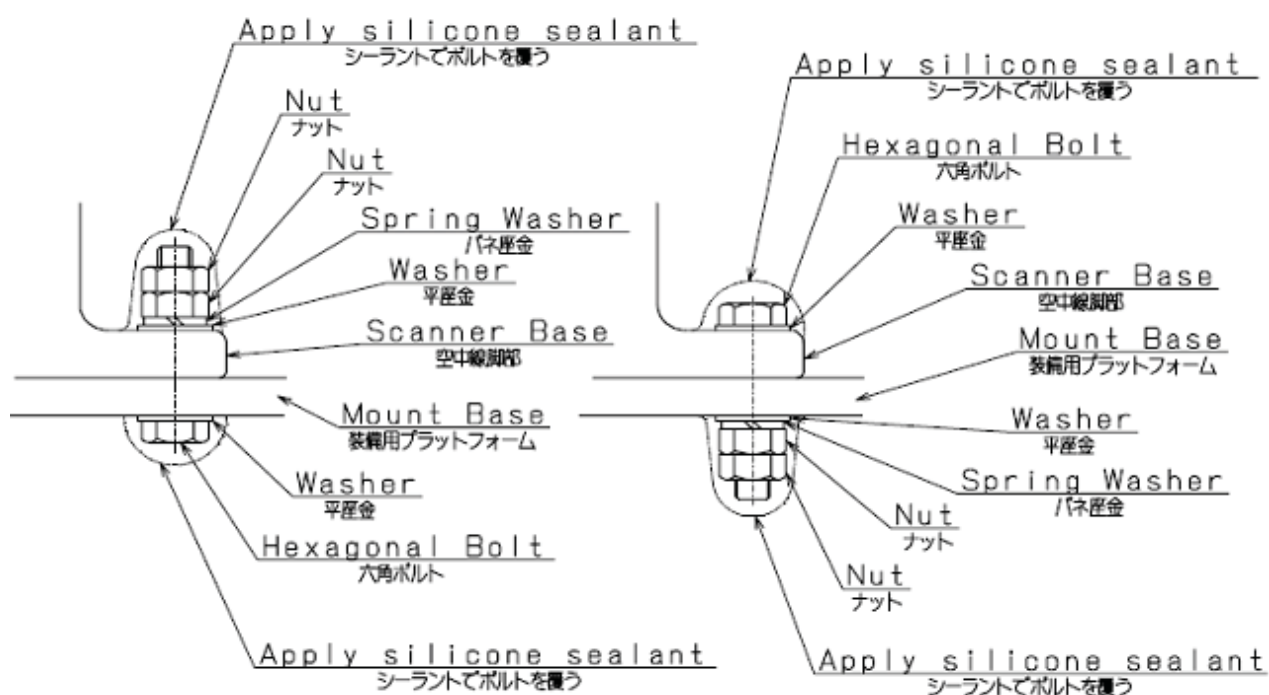

Fig.2-3 Use of washer and corrosion-resistant measures
- At the location where a bolt's head or nut comes in contact with the antenna chassis' legs and the mount base, insert a plain washer which fits the bolt; and, at the location where the nut comes in contact with the plain washer, insert a spring washer, and then securely tighten the nuts (Fig.2-3).
- To prevent corrosion due to the contacts between different metals, such as the antenna chassis' legs, installation surface, bolts, nuts, etc., cover the bolt's head and nuts with sealant (Fig.2-3).